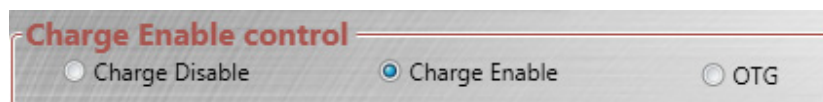

Figure 4: Selecting the Operation Mode
2. Select the operation mode for the MP2723 (see Figure 4).